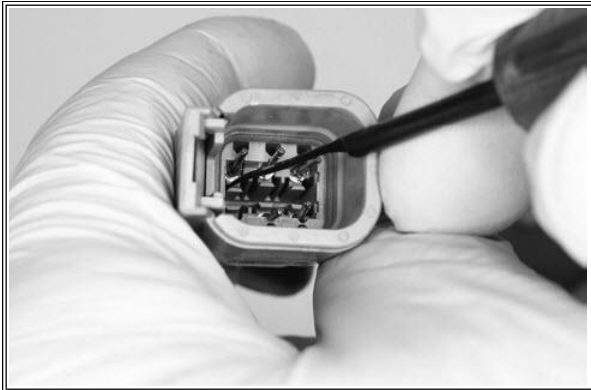

Figure 3. Terminal Lock
10. Using pick tool or small flathead screwdriver, remove terminal wires by depressing each terminal lock while pulling corresponding wire out through rear of connector (Figure 3).